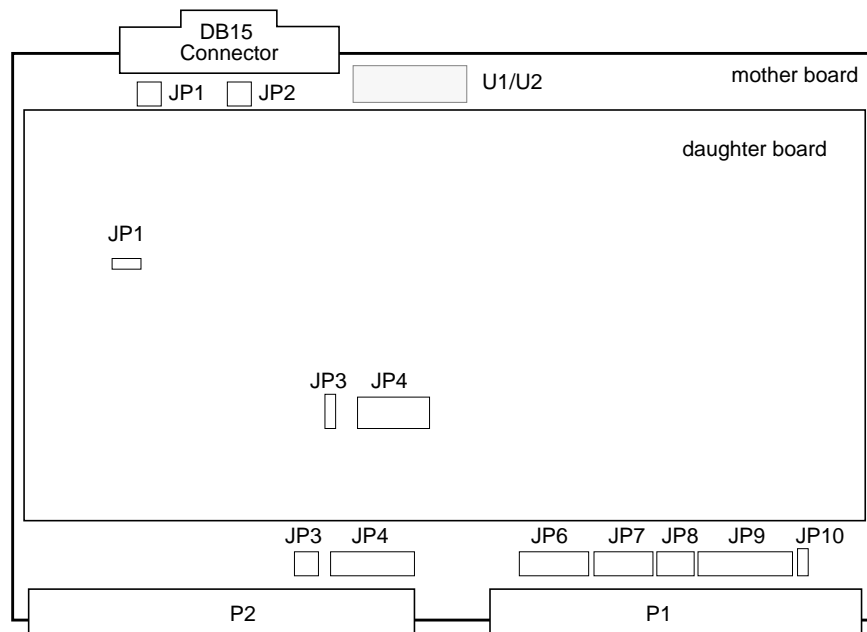

Figure 1-1 EFAST Jumper Block Locations
- Figure 1-1** EFAST Jumper Block Locations1-1
The EFAST board's jumpers are described in Table 1-1 and Table 1-2; the jumper locations are illustrated in Figure 1-1.